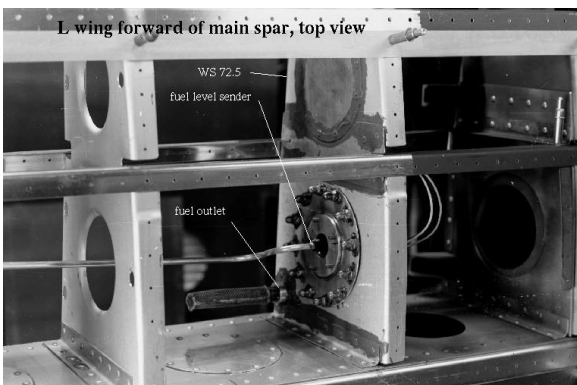

Figure 1.6. A top, outboard view of the left wing at WS 72.5. This is the inboard end of the auxiliary fuel tank.
The stringers could probably be sealed without the doubler using a mixture of class B Pro-seal and aluminum wool. You can install the blanking plates and doublers in the ribs with non-structural pulled rivets and class B-2 Pro-seal. Putting aux tanks in a pop-rivet wing requires drilling out the factory installed rivets securing the angle brackets (e.g. 3100-12) holding the ribs to the main spar and reinstalling them with Pro-seal. Now is the time to install a flange for the fuel outlet fitting and strainer in the inboard rib and a flange for the vent in the outboard rib. Make sure the fuel level transmitter can be removed and replaced, either through one of the access plates in the lower skin or through the access plate in the pylon skin (PS). This may require a rather complex mounting scheme such as shown in Figure 1.6. You may want to install lines running spanwise through the forward ribs for the fuel vent, wires, gear actuator hydraulics, Pitot pressure, etc. If so, now is the time to put in the grommets and lines.